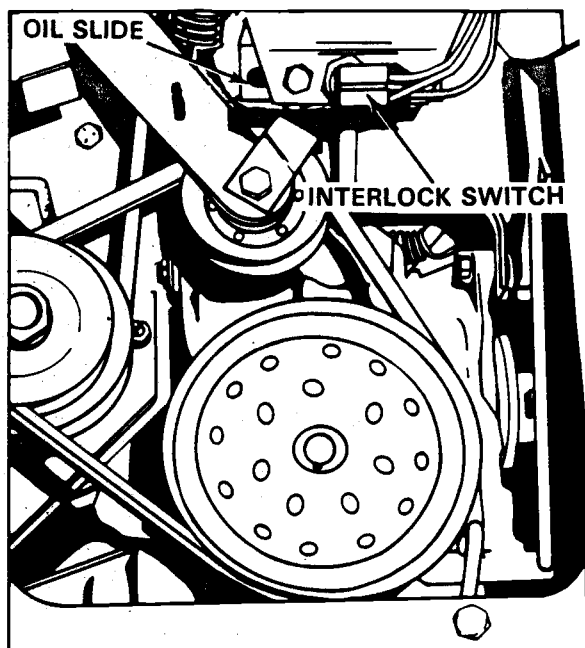

FIGURE 26
2. Lubricate slide for shift interlock switch. See Figure 26.